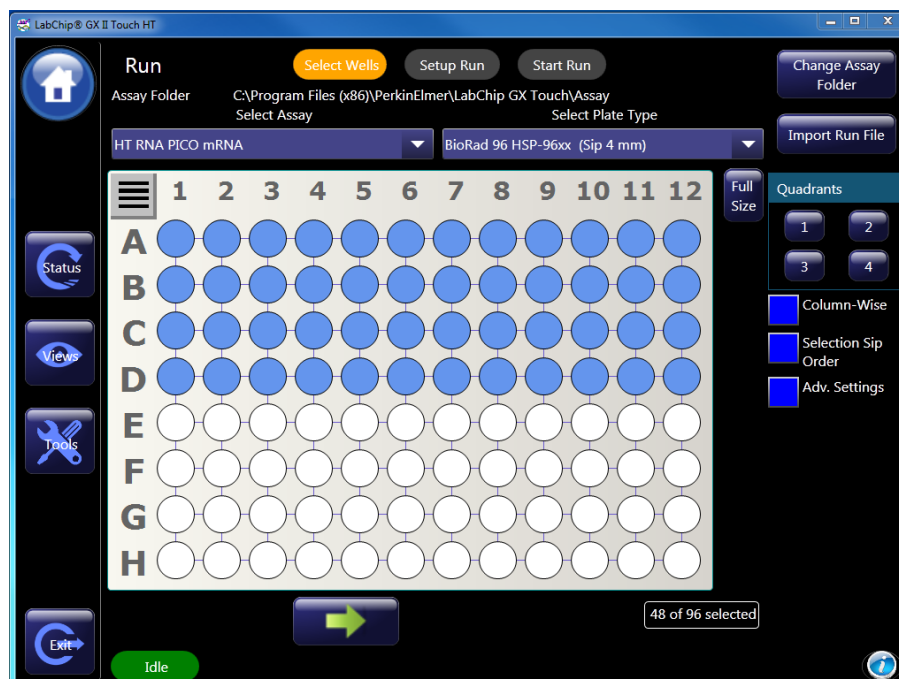

Figure 11. Selecting wells.
- 3 Select the plate name, well pattern, and whether to read wells in columns or rows. Select number of times each well is sampled under *Adv. Settings* (Figure 11). Touch the *green arrow* button.